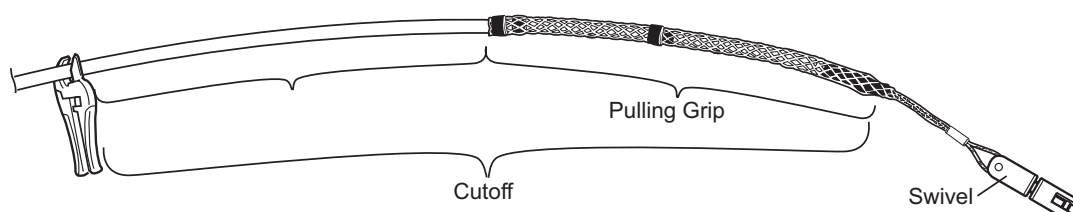

Figure 1 – Cutting the Pulling Grip
- After the duct has been pulled through, cut away the front part of the duct, see Figure 1. The length of the cutoff must be twice the length of the pulling grip. This is due to the extra stress on that part of the duct.